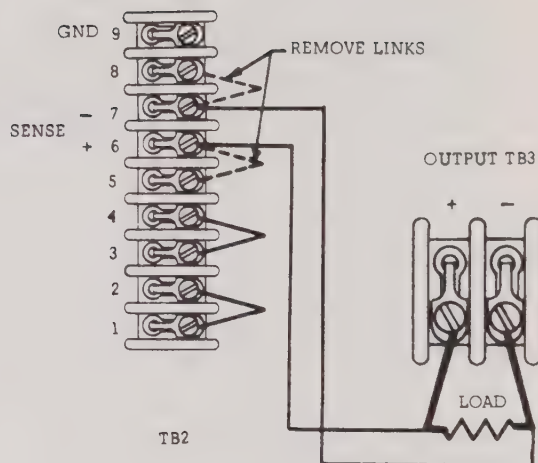

Figure 4-2. Remote-sensing Configuration
- b. Remove local-sensing links at the plus and minus SENSE of terminal board TB2. See Fig. 4-2.